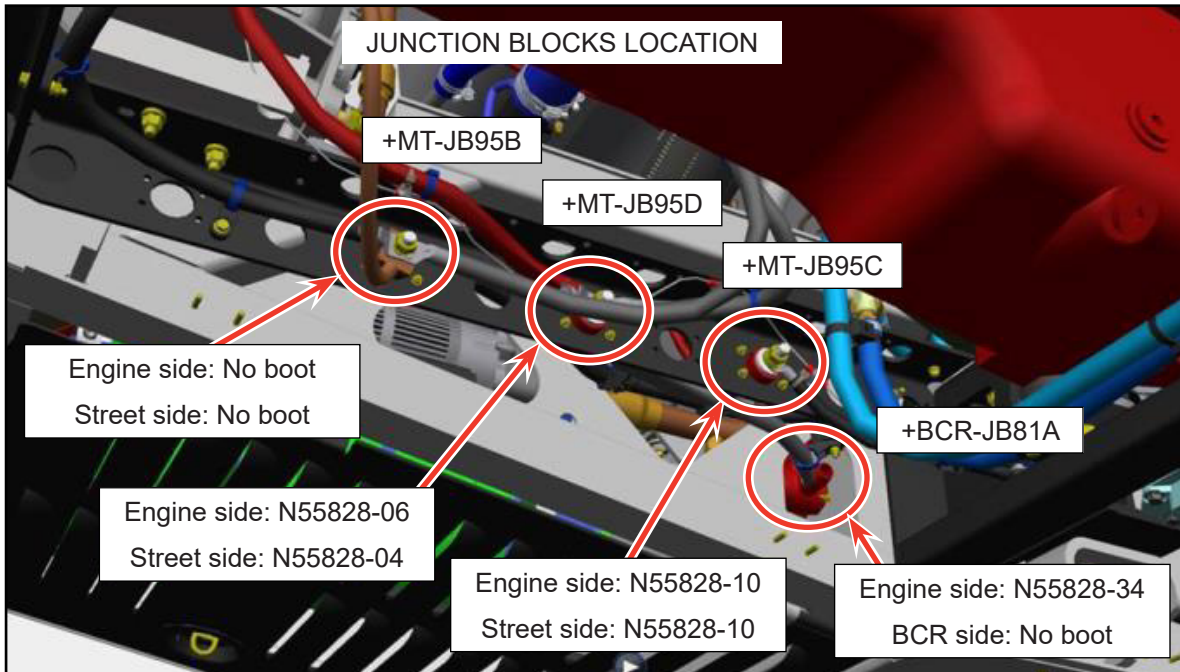
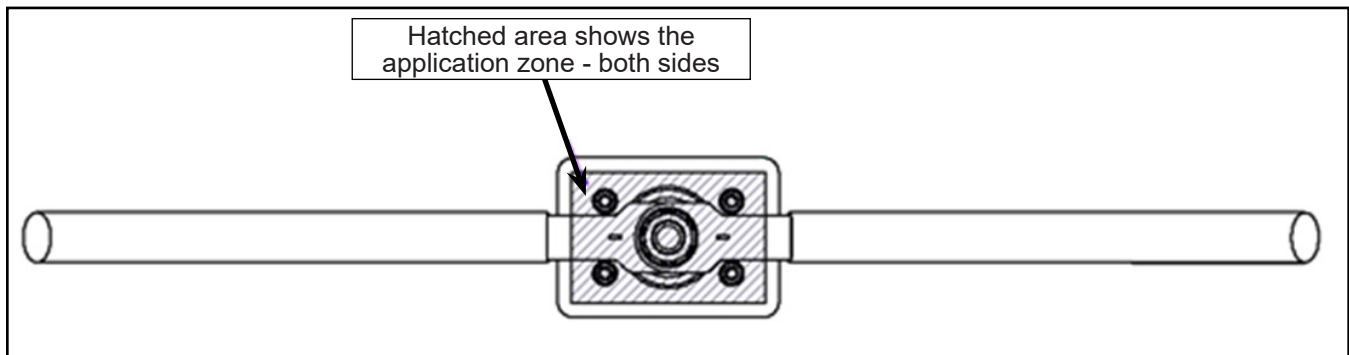

Figure 4 - Junction Blocks Location and Boot Part Numbers
Figure 12 - Junction Block Assembly Showing Corrosion Preventative Product Application Area on Both Sides
- 1.5. Locate the four junction blocks in the engine compartment at rear of the vehicle (see Figure 4).
Confirm the presence of the junction block protective boots and inspect each one for any significant damage that might compromise electrical safety (risk of short circuit between each positive junction block and chassis ground). If any protective boot is missing or replacement is required, please refer to the Level 2 "Replacement of Damaged or Missing Protective Boots" section. See Figure 4 for the protective boot part numbers.
- 2.12. Install the new junction block N86271-01 (red) or N86271-02 (black) (see Figure 4 for junction block locations) with their four mounting screws and torque to the specified values (see Figure 12).
- 2.14. Insert the N86419 - washer flat 1/2" tin-plated brass (one side at a time) as shown in Figure 12.
- 2.15. Apply N91901 thread locker blue in solid form (9g stick) or equivalent on the junction block stud threads ONLY (both sides, one side at a time) and then insert the N86420 1/2"-13 tin-plated brass hex nut (see Figure 12). To avoid contaminating / degrading the high-current cable terminals and junction block electrical contacts, do NOT use thread locker blue in LIQUID form as this product variant could wick or drip on the contacts surface.
- 2.16. Torque the N86420 - nut 1/2"-13 tin-plated brass to the specified values, one side at a time (see Figure 12).